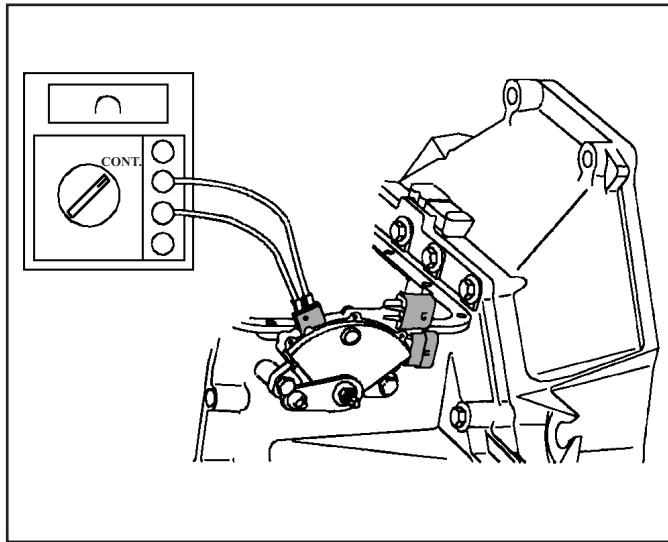

Figure 219
55. Adjust the neutral safety switch by placing the manual lever into the D4 position. Place an ohmmeter on the two terminals in the connector shown in Figure 219. Rotate the switch until continuity is seen. Tighten the retaining bolts to 14 N•m (124 in. lbs).